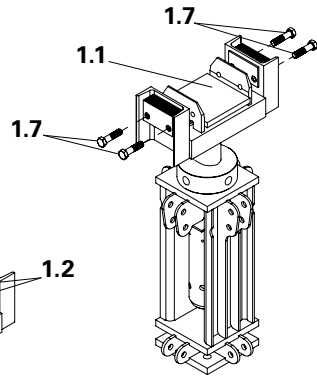

Fig. 11
1. Loosen the four bolts of the fork head (1.1) by turning them counter-clockwise, and then remove. (Fig. 11)